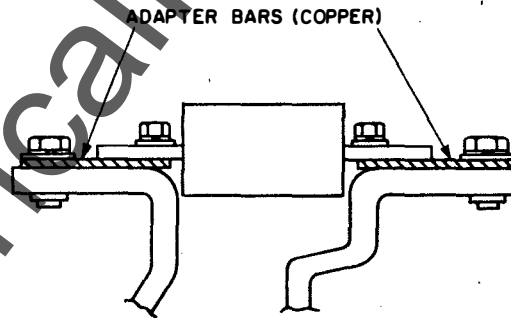

Fig. 11. Mounting for 300, 350 and 400A Class J fuses on AKRU-30 breakers
Class J fuses rated 300 thru 600A have one mounting hole per tang. The 300, 350 and 400A sizes require copper adapter bars per Fig. 11.
*Mounting adapter required - see Fig. 11